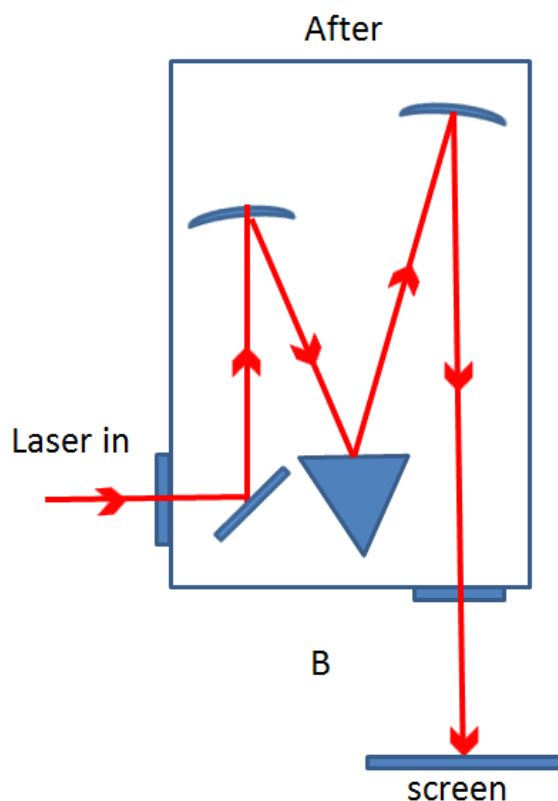

Figure 32. Diagram of path taken by light wave.
6. To check the alignment of the folding mirror, set up the laser coming in flat and level normal to the new side entrance slit face. See Figure 32 below: